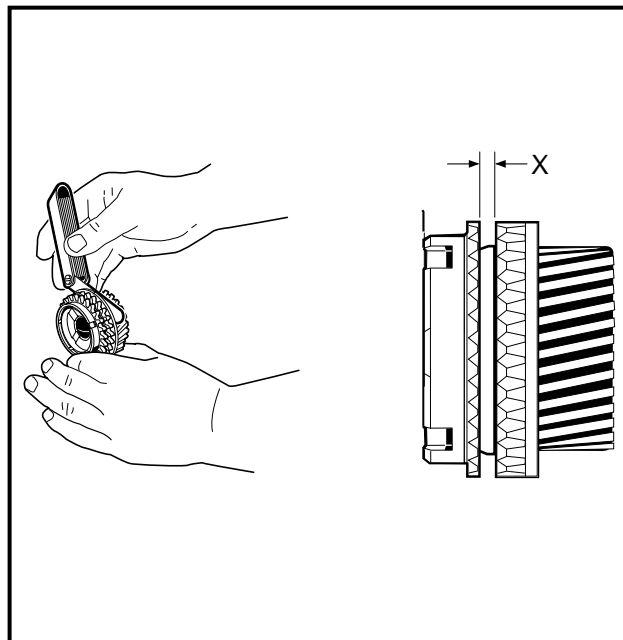

Figure 16-60 Synchro. Ring
5. Using a feeler gauge, measure the distance X at several points around the assembly. The synchro ring should be replaced when X is 0.02 inch (0.5 mm) or less (**Figure 16-60, Page 16-25**).